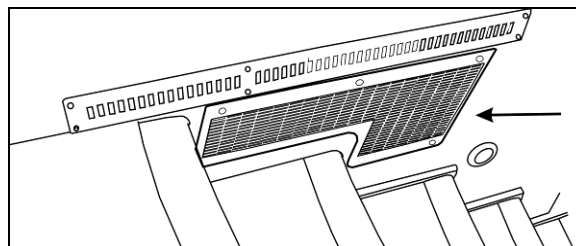
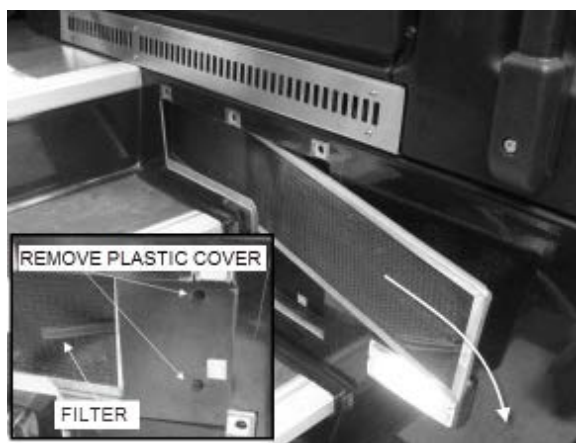

FIGURE 17: R.H CONSOLE AIR FILTER ACCESS GRILL (COACHES) 18505
FIGURE 18: REMOVING DRIVER'S SECTION AIR FILTERS
The driver's unit is located behind the R.H. console panel. To gain access to the air filter, unscrew the R.H. console's grill located in the entrance stepwell. Remove the plastic cover and slide out the recirculating air filter (FIGURE 18).
The driver's HVAC unit is located behind the dashboard's R.H. side panel. To gain access to the A/C filters, unscrew the grille located at the top entrance step (Figure 17). Unscrew the plastic cover and slide out the recirculating air filter (FIGURE 18). Doing so will give you access to the fresh air filter (see item 18, Figure 76).